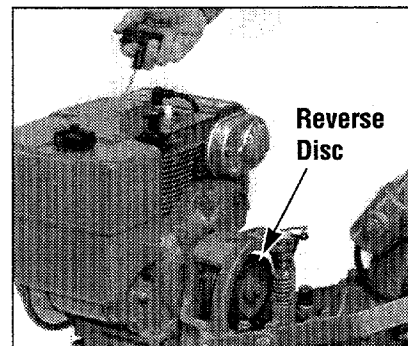

Figure 5-25: Checking Reverse Disc in NEUTRAL.
2. Place Wheels/Tines/PTO Drive Lever in NEUTRAL. Briefly pull out engine recoil start rope while watching reverse disc. The disc should turn, but lower pulley should not (Figure 5-25). If reverse disc turns lower pulley, or if it is located closer than 3/16" to the pulley, reverse adjust-